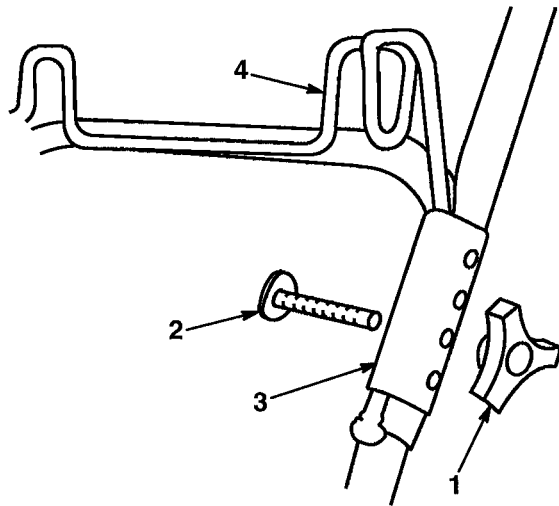

Figure 36
10. Remove knob and bolt securing left side upper and lower handle sections (Fig. 36).